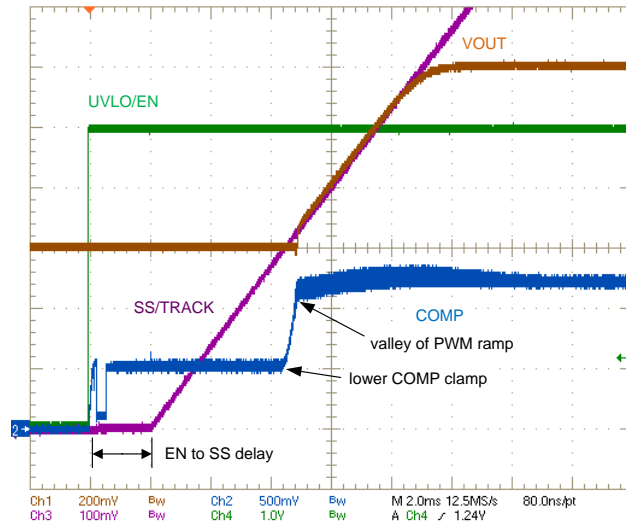

Figure 37. Typical Startup Waveforms with 0.6-V Prebiased Output, 1.2-V Nominal Output
The LM27403 does not allow switching until the SS/TRACK pin voltage has reached the feedback (FB) voltage level. Once this level is reached, the controller begins to regulate and switch synchronously, allowing a certain amount of negative current during PWM switching operation. Thereafter, the feedback voltage follows the soft-start voltage up to 0.6 V. This is illustrated in Figure 37 where nominal output voltage is 1.2 V and the output voltage waveform represents twice the FB level. The output is not pulled low during a prebiased startup condition. Note that if the output is prebiased to a higher voltage than the nominal level (as set by the feedback resistor divider), the LM27403 does not pull the output low, hence eliminating current flow through parasitic paths in the system.